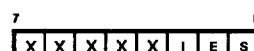

Figure 14. Trap Control Register
**Trap Control Register.** This 8-bit register (Figure 14) enables the maskable traps. Upon reset this register is initialized to all 0s.